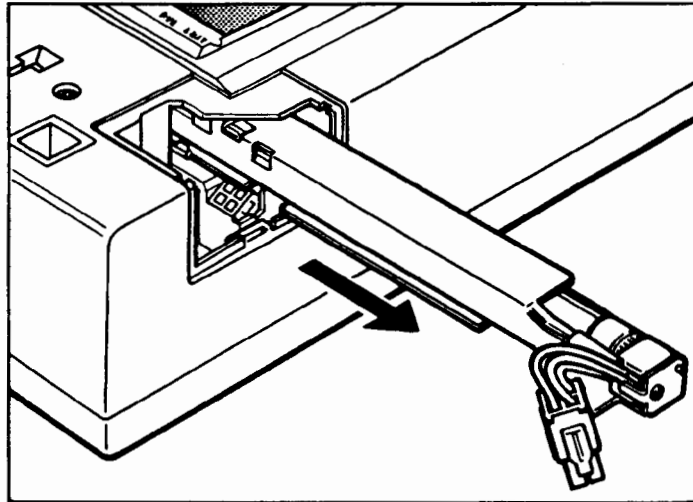

Figure C-11. Removing the Lamp Holder
10. Gently remove the lamp holder by sliding it out of the scanner. See figure C-11.